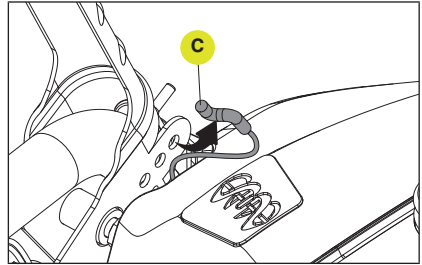

Figure 56
4. Unhook the connector (C) in the control handle. You may have to move the control handle to make this easier to remove. (Fig. 56)